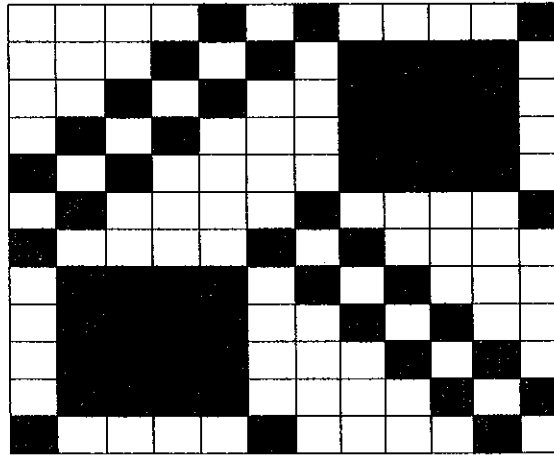

Figure 1
- (Q1.)** Refer to the woven structure given below as Figure 1 and answer the questions (a) to (c).
- a) Identify the fancy woven structure illustrated in Figure 1. (01 mark)
- b) Name the two (02) weaves that have been used in combination to construct the woven structure that you have identified in part (a) of the Q1 question. (02 marks)
- c) Briefly explain three (03) fabric properties that you can expect from a fabric produced according to the structure given in figure 1(part (a) of Q1 question) and justify the answers giving reasons. (06 marks)
- (Q2.)** Briefly explain one (01) favourable property and one (01) limitation of reversible double woven cloths. (04 marks)